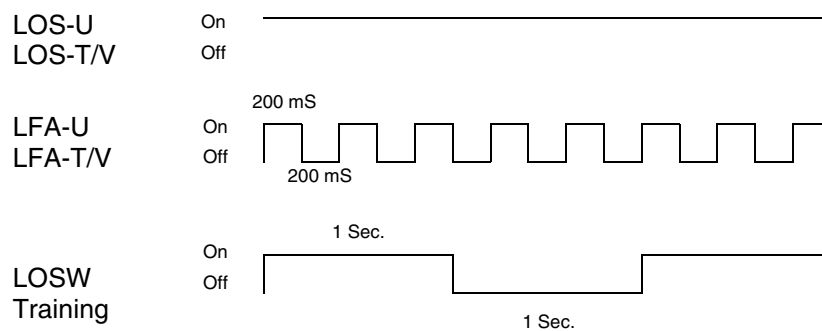

Fig. 2.115 Visual signalling of the BSTU
1) Visual signalling according to Fig. 2.115